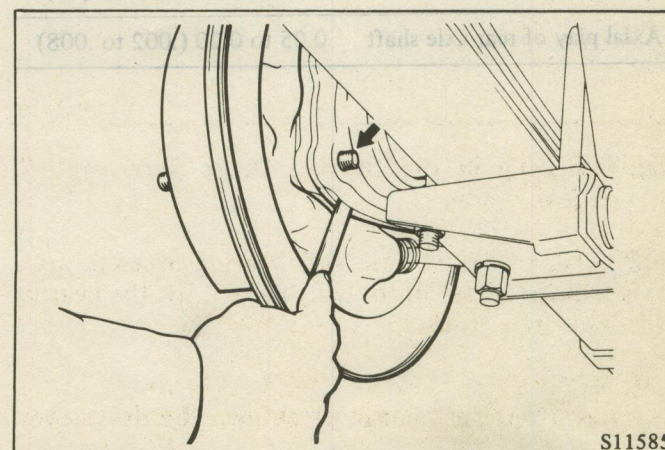

Fig. 15 Measuring Bearing Case to Housing End Face Clearance
(4) Fit the right side axle shaft assembly into the right side housing, without using a shim or an O ring, and temporarily tighten the bearing case to torque of 0.6 Nm (.4 ft-lbs.). Because there will then be a gap between the bearing case and the housing, measure this gap by using a feeler gauge. (Fig. 15)